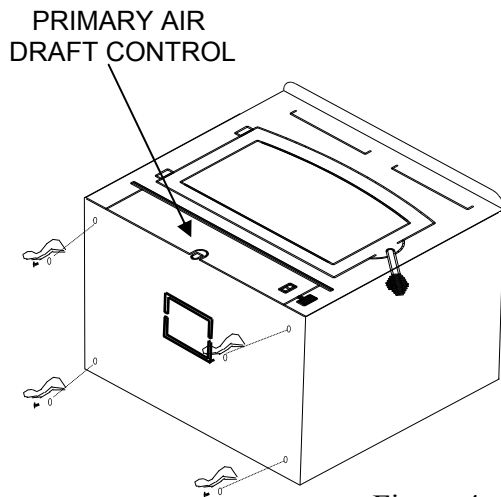

Figure 4
3. Check primary air draft control to ensure that it slides freely.(See Figure 4).
5. **(Leg Kit):** If legs are to be used, obtain four legs, attach legs to holes in bottom of unit with bolts and washers supplied with leg kit. (See Figure 4).